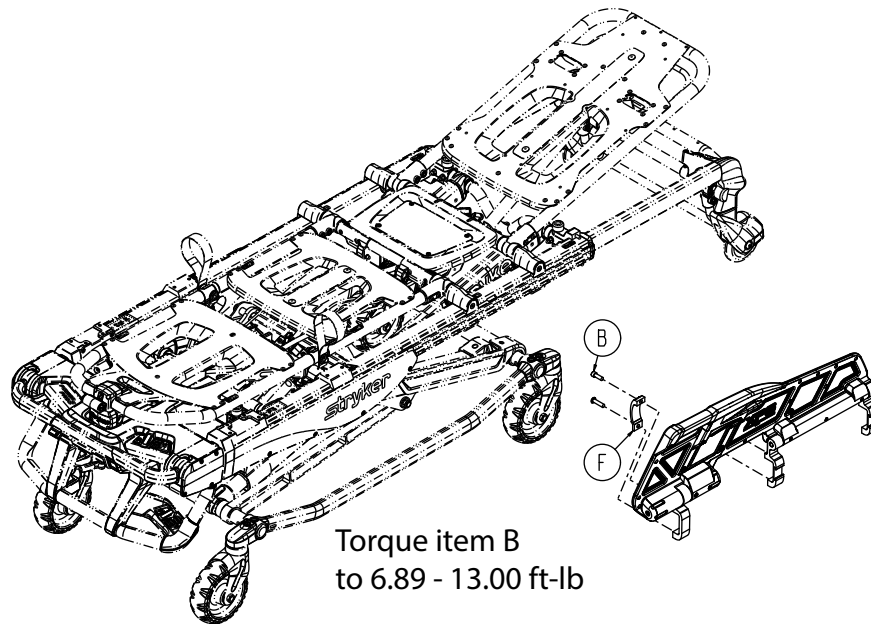

Figure 97 – Remove the hex socket button head cap screw
13. Using a T27 Torx driver, remove the hex socket button head cap screw (B) that secures the XPS inner bracket (F) to the slider block (Figure 97). Save the screw.